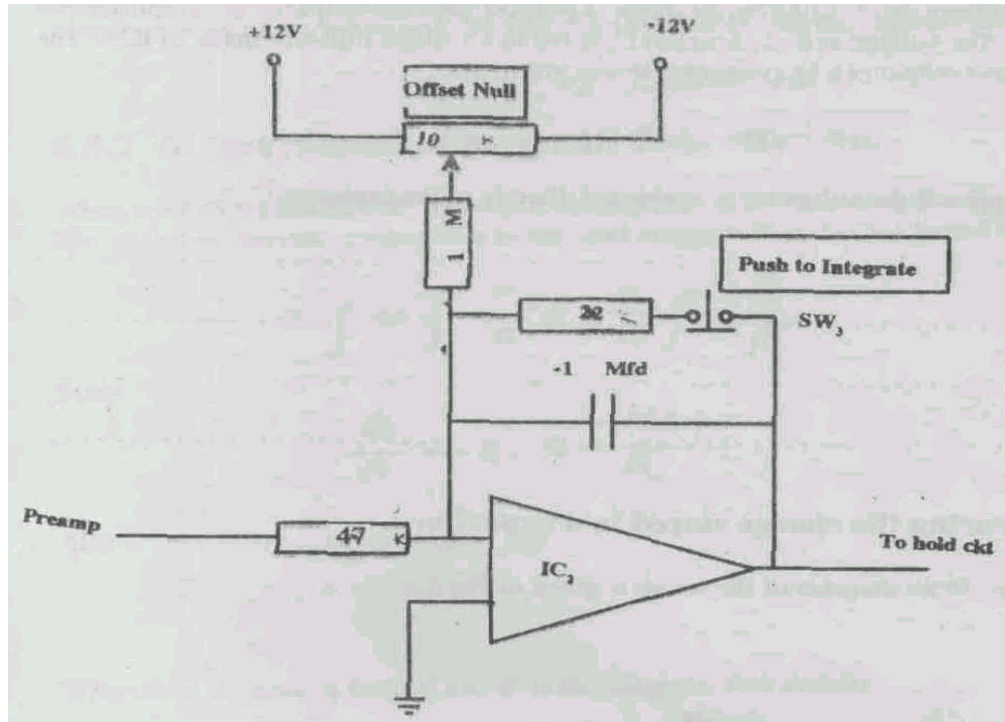

Fig. 6.3
The voltage integrator is designed using 741 (IC2) Operational amplifier. The circuit is shown in Fig.6.3.
- (1) Compare Fig.6.3 with the integration circuit provided in the experiment on OPAMP INTEGRATION and note down the similarities and differences.
- (2) Replace the 741 Opamp with FET(740) Opamp and note down the performance, compared to the 741.
- (3) Leave the circuit for a long time, say about 10 minutes, and watch the output. Give a reason for the behaviour you observe.